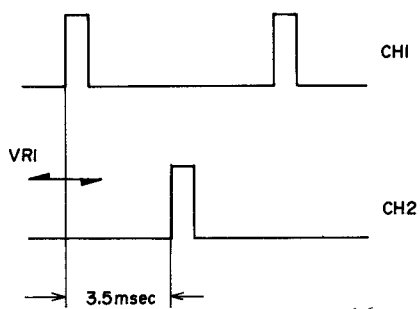
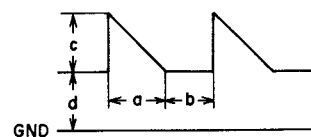

Fig. 16
Fig. 17
- d) Connect the oscilloscope's CH-1 to P5-② and CH-2 to P5-③.
- f) Adjust the VR2 (20 kB) so that the phase different between CH-1 and CH-2 is 3.5 msec as shown in Fig. 16.
- g) Connect the oscilloscope to P5-④.
- h) Adjust VR1 (500 kB) and VR2 (20 kB) so that the $a=b$ and $c=d$ as shown in Fig. 17.